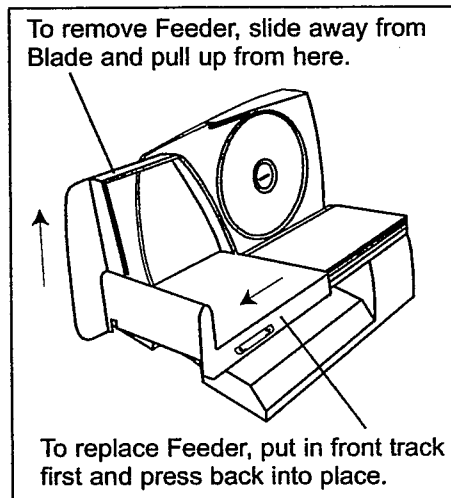

Figure 1
4. Remove the Food Press, Feeder, (see Figure 1 for disassembly and assembly) and Food Tray and wash in warm, soapy water. Rinse and dry thoroughly.